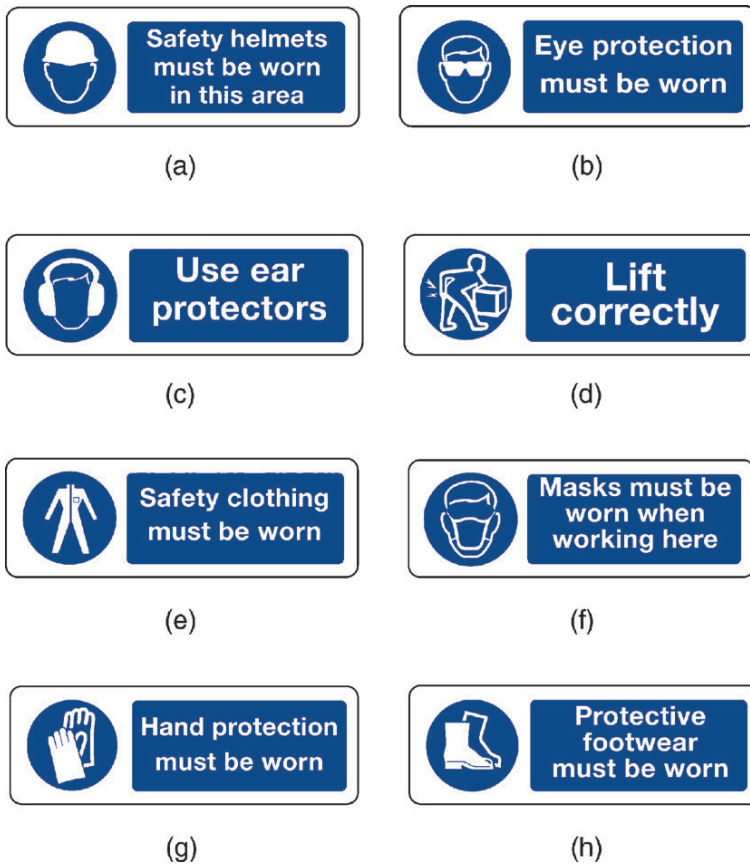

Figure 1.1 Safety signs showing type of PPE to be worn.
- Figure 1.1 below shows the type of safety signs which might be used to indicate the type of PPE to be worn in particular circumstances for your protection.